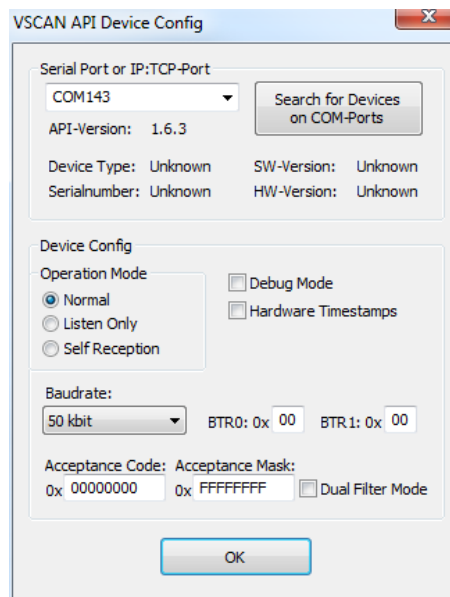

Figure 25: BUSMASTER: Configure Device
4. Click „Advanced” button to configure USB-CAN Plus device (see Figure 25). Setup COM143 as Serial Port, set Baudrate to 50kbit and Acceptance Mask to **0xFFFFFFFF**